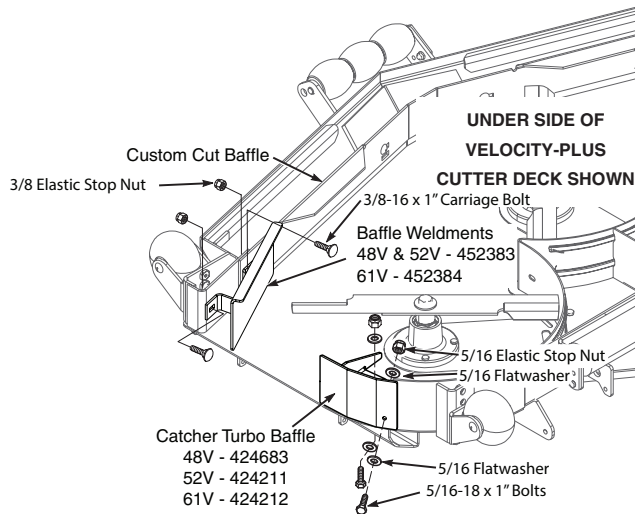

Figure 2-3. Grass Catcher Baffles
5. Remove the turbo baffle from the cutter deck. Using 5/16-18 x 1" bolts (p/n 04001-09), 5/16 flatwasher (p/n 04040-15), and 5/16 elastic stop nuts (p/n 04021-10) install the catcher turbo baffle. See Figure 2-3. (baffles have p/n's on them)
- Install the grass catcher baffle weldment and secure using 3/8-16 x 1" carriage bolts (p/n 04003-23) and 3/8-16 elastic stop nuts (p/n 04021-09). See Figure 2-3.